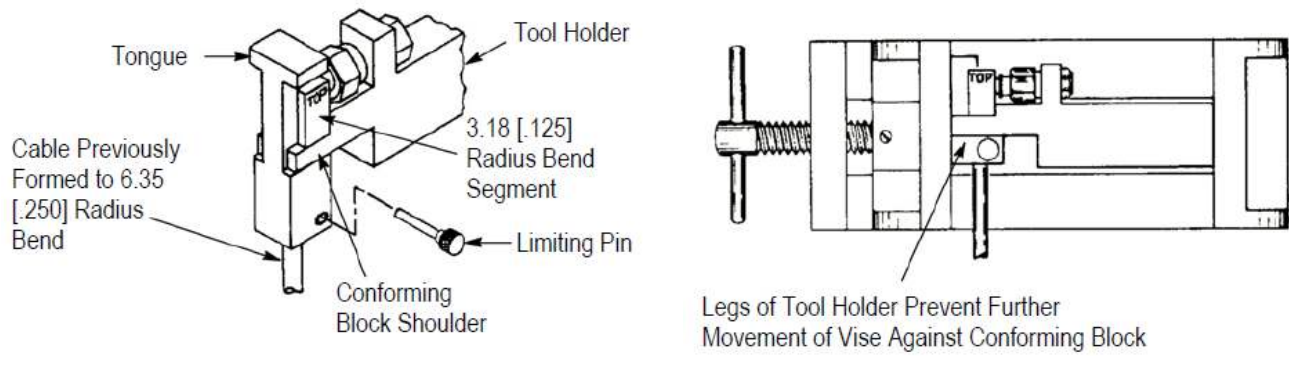

Figure 16
- Place the conforming block over the cable with the tongue of the block in the slot of the tool holder, as shown in Figure 16.